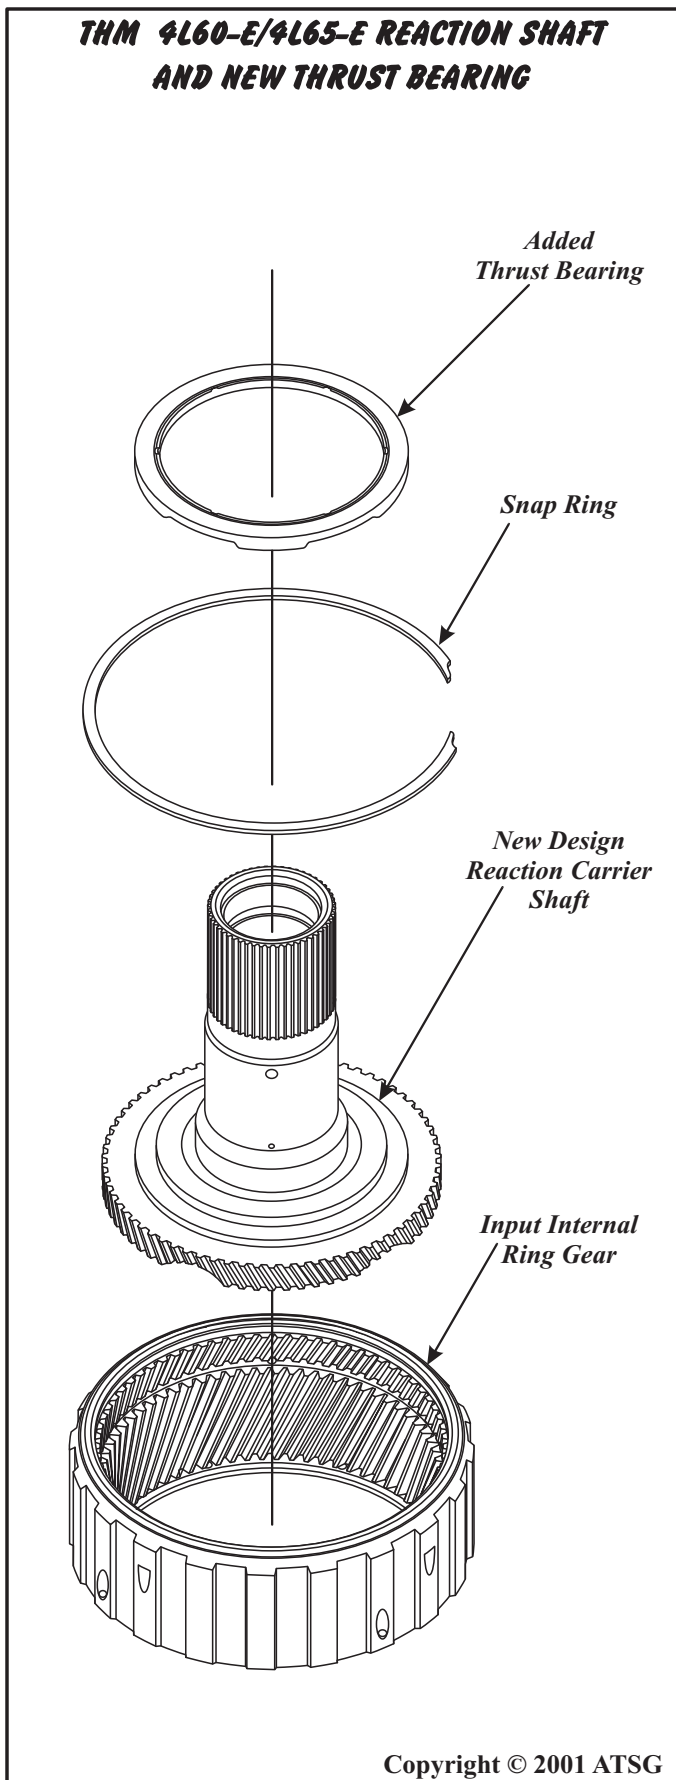

Figure 85
- (2) REACTION CARRIER SHAFT - Modified on the rear surface to accommodate the added thrust bearing, as shown in Figures 85 and 86.
- (3) THRUST BEARING - Added for increased durability as shown in Figures 85 and 86.